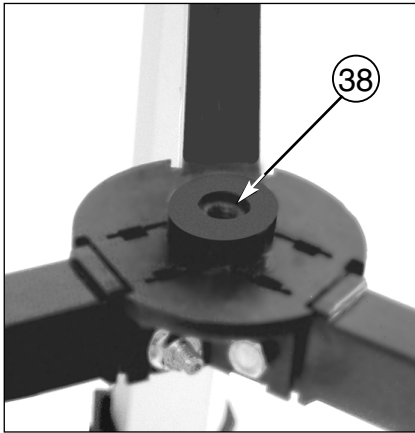
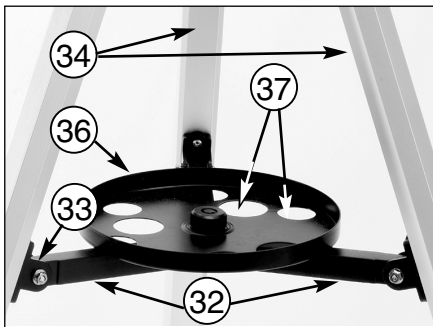
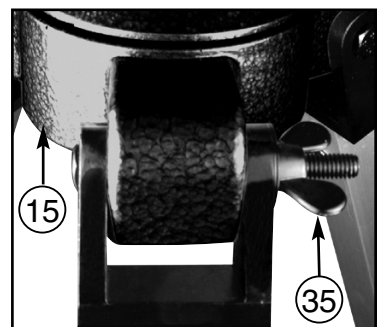
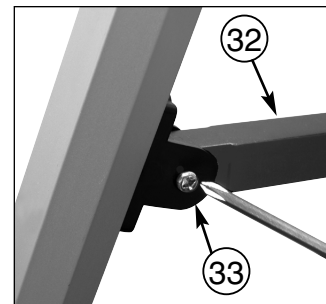

Fig. 1b: Bolt hole for tray assembly.
Fig. 1f: Leg brace and tray assembly.
Fig. 1g: Attaching tripod leg to mount.
Fig. 2: Tripod leg brace support assembly.
2. Attach the 3 aluminum tripod legs (**6, Fig. 1f**) to the base of the equatorial mount (**15, Fig. 1g**) with the 3 leg braces supports (**32, Fig. 1f**) facing inward. Three bolts each about 2.5" long, with washers and wing nuts (**35, Fig. 1g**), are provided for this purpose in a hardware package. Stand the telescope upright, spreading the tripod legs evenly apart so that the accessory tray can be positioned to attach to the 3 leg braces.
3. Use the provided 3 short screws, washers and bolts to attach the accessory tray (**36, Fig. 1f**) to the tripod. Line up one of the leg braces (**32, Fig. 1f**) between the opening of one of the tripod leg brace supports (**33, Fig. 1f**) on the tripod so that one of the short screws will be able to pass through the holes of the leg brace support and the leg brace. Using a Phillips-head screwdriver, thread one of the short screws through the hole. Place a washer on the other end, followed by the matching nut. Tighten to a firm feel. Repeat this procedure until all 3 leg braces are mounted on the 3 leg brace supports. See **Fig. 2**.
4. To attach the accessory tray (**36, Fig. 1f**) to the leg braces (**32, Fig. 1f**), place the round accessory tray over the over mounting bolt hole (**38, Fig. 1b**). Threading the attachment knob into the the mounting hole on top of the tray and turning the knob clockwise. Tighten to a firm feel, but do not overtighten—you will need to remove the tray if you wish to collapse the tripod. To remove the tray, just rotate the knob counterclockwise and remove the knob. You can then lift and remove the tray.